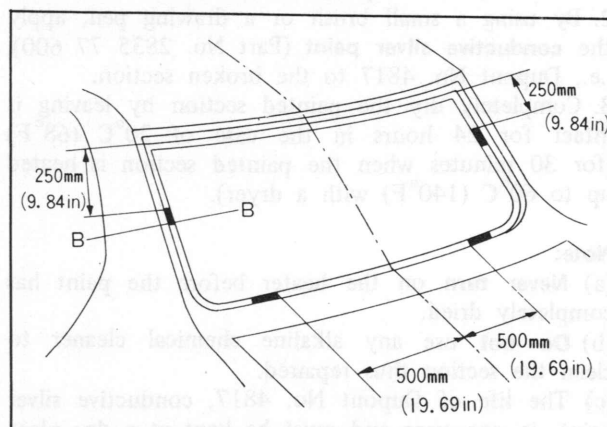

Fig. 14-30 Position of spacers
3. The directions and positions each spacer to be bonded are shown in Fig. 14-30.